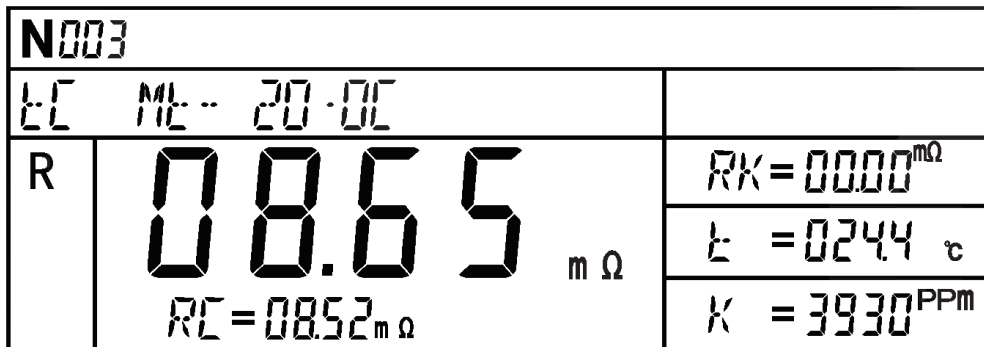

Fig.4-7 Temperature Compensation Measurement
- (2) Press "FN/☀" button to enter temperature compensation measurement mode (fig. 4-7). Measured reading is shown on main display area. Rc is the calculated impedance value of the measured object.
- Press "ENTER/SAVE" to save the setting and switch to next parameter. Press "ESC" to discard changes and return to Temperature measurement mode (fig.4-7).
- As soon as all parameters are well configured and saved, press "ESC" to complete configuration and return to Temperature measurement mode (fig.4-7).